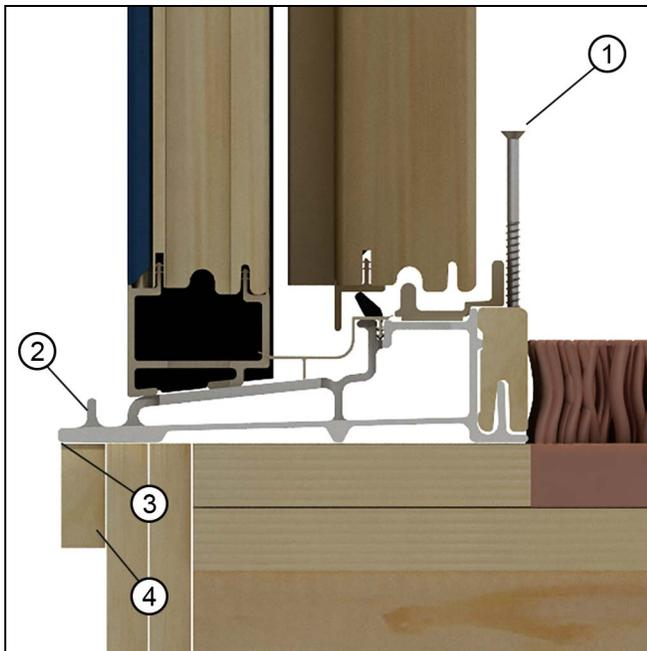

Figure 18 Pre-2011 Platform sill
1. For sliding and swinging pre-2011 sills, figure 6(a): Install a sill nose support block under the sill. Fabricate from treated lumber and attach to underside of the sill with construction adhesive. Nail the block to the sheathing to hold it in place. Apply generous amount of sealant along the underside of the sill as shown. See Figure 18.